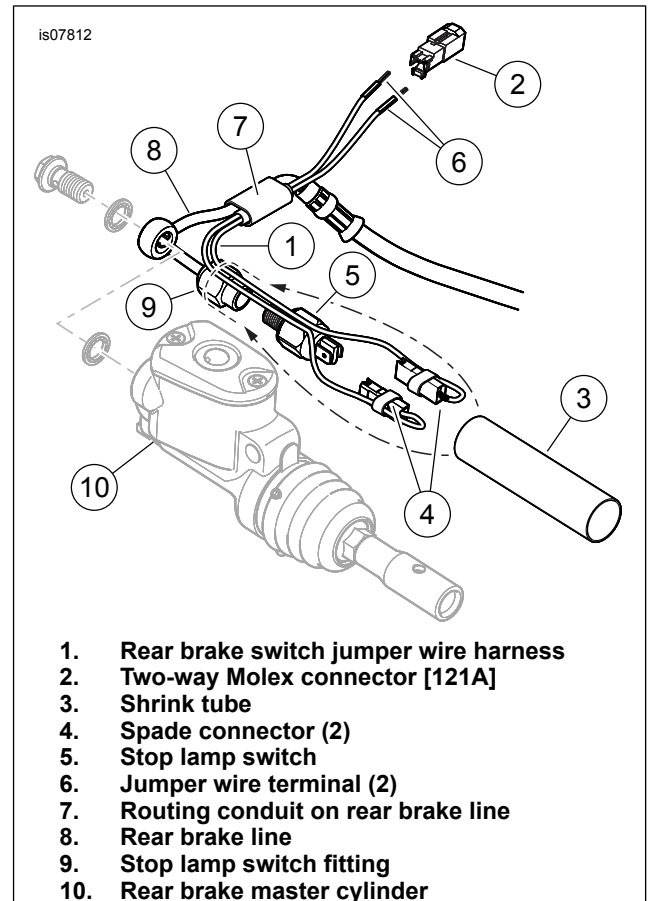

Figure 1. Stop Lamp Switch Wire Routing
2. See Figure 1. Cut the shrink tube covering the stop lamp switch (5) and jumper harness (1).
1. Get the **new** brake switch jumper wire harness from the kit. See Figure 1. One lead at a time, thread the jumper terminals (6) and wires through the routing conduit (7) on the rear brake line (8) as shown.
2. Install the terminals and wires into the correct cavities of the **new** two-way Molex pin housing (2) from the kit.